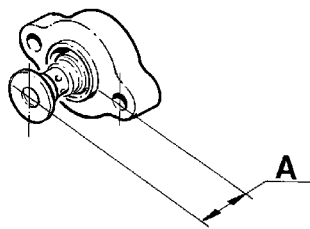

Fig. 12: D12C, oil cooler thermostatic valve (discontinued)
Length (A); see Fig. 12: D12C, oil cooler thermostatic valve (discontinued), page 19 ..... 40.1 ± 0.5 mm (1.58 ± 0.02 in)